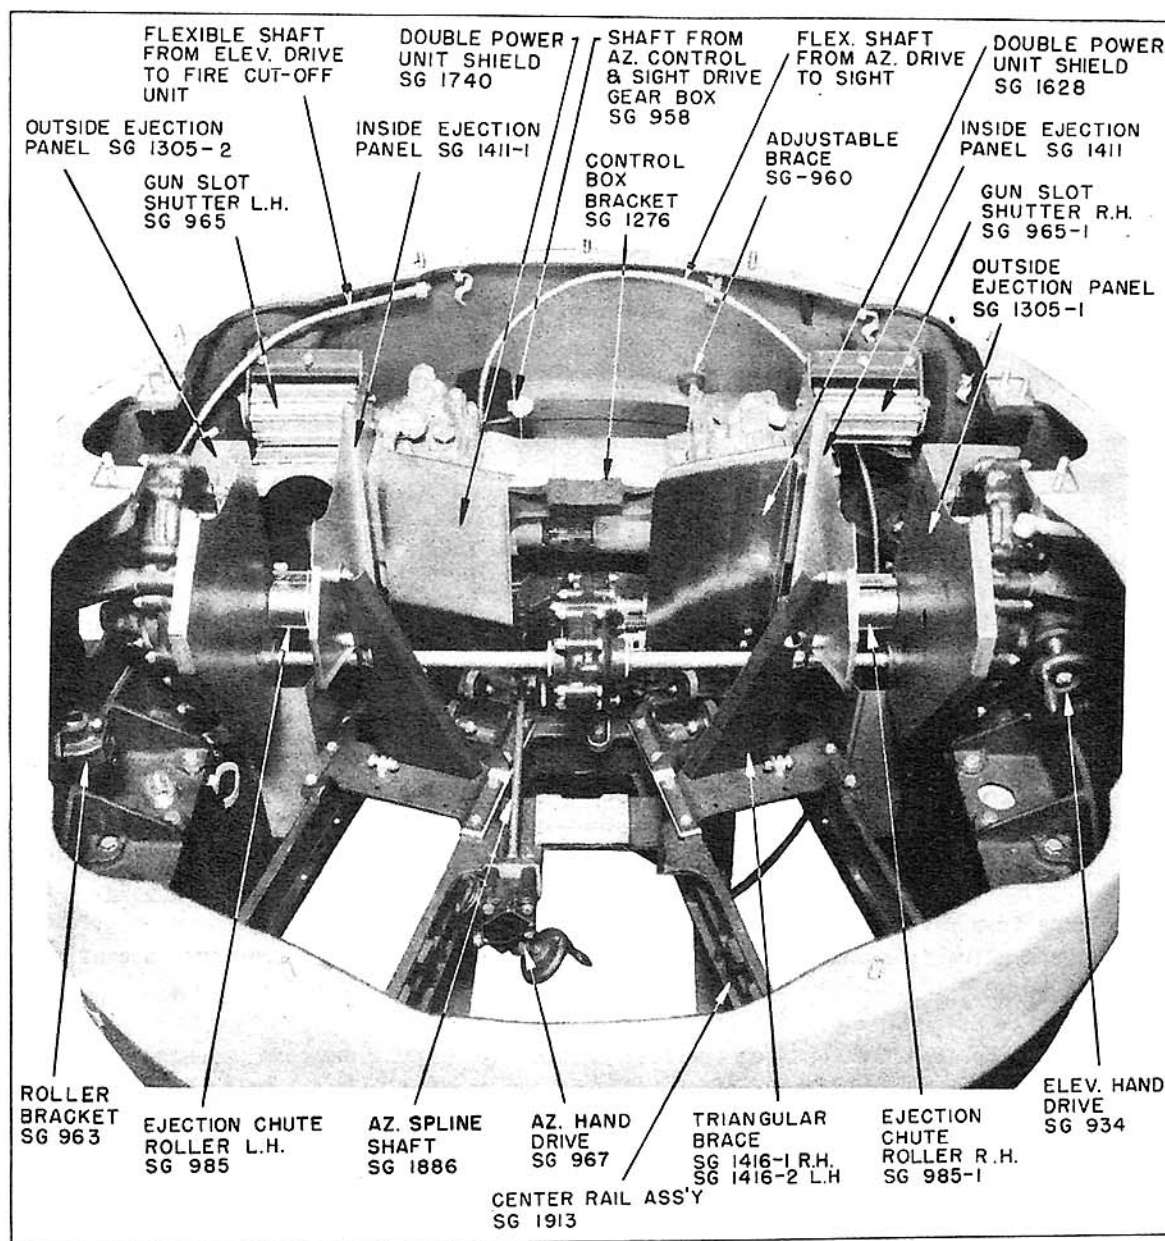

FIGURE 39
(b) Fasten other end of brace to the double power unit with a bolt (5/16"-18, 3/4") and safety wire. (See Figure 39.)
(2) Inside Ejection Panels, Deflectors and Shields. - (a) Mount the right hand inside ejection panel (SG 1411) to the double power unit with 2 bolts (5/16"-18, 3/8") and safety wire. (See Figures 39 and 40.)
(b) Fasten upper portion of ejection panel to gun slot shutter bracket with 2 round head screws (10-24, 3/8") and lockwashers. (See Figures 39 and 40.)
(g) Attach the front end of the inside ejection panel to triangular panel brace (SG 1416-1) with 2 flat head screws (10-32, 1-1/4"). (See Figure 39.) Place a 1/2" spacer between brace and shield before putting on washers and elastic stop nuts.
(h) Fasten other end of the triangular brace to sight link anchor bracket (SG 1168-2) with 2 bolts (10-32, 5/8"), using 2 washers and elastic stop nut on each. (See Figure 39.)
(3) Double Power Unit Shields and Control Box Bracket. - (a) Attach the right hand double power unit shield (SG 1628) and control box bracket (SG 1276) to the double power unit by means of a cap screw (5/16"-18, 7/8"). (See Figure 39.)
(4) Ejection Chute Rollers. - (a) Fasten the right hand ejection chute roller (SG 985-1) between the inside ejection panel (SG 1411) and the outside ejection panel (SG 1305-1) with a bolt (1/4"-28, 4-1/2"). (See Figures 39 and 45.)
2. Lockwire the bolt to the dowel plate, which is used to anchor the torsion spring of the ejection chute roller to the inside ejection panel. (See Figures 39 and 45.)
(c) Using a sling cable and sling spreader T-44051, lift up the unit housing assembly, as shown in Figure 39, and set it on top of the test stand.